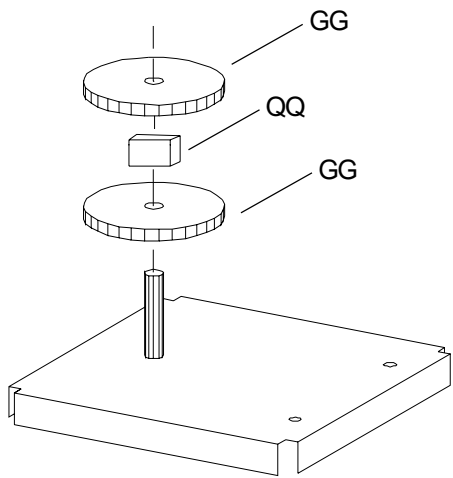
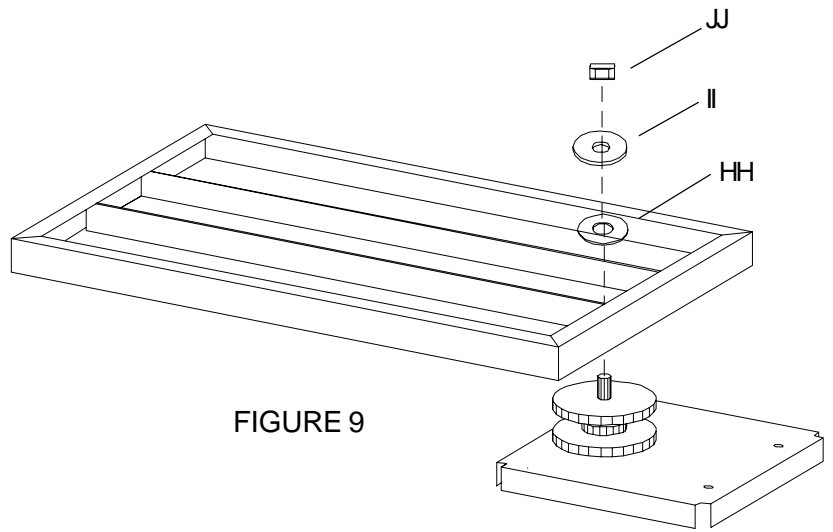

FIGURE 8
FIGURE 9
Lay the mouse pad mounting bracket down with the welded bolt facing up and slide on the following 1 big washers (GG), spacer (QQ) and another washer (GG) as shown in **FIGURE 8**. Next slide on the mouse pad assembly, nylon washer (HH), steel washer (II) and lock nut (JJ) onto the welded bolt as shown in **FIGURE 9**. **TIGHTEN NUT TO SECURE ENTIRE CONNECTION.**